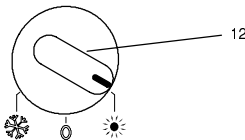

fig. 2.5
- 4 If domestic hot water supply only is required, position the function switch (12) as in fig. 2.5 (Combination boilers).